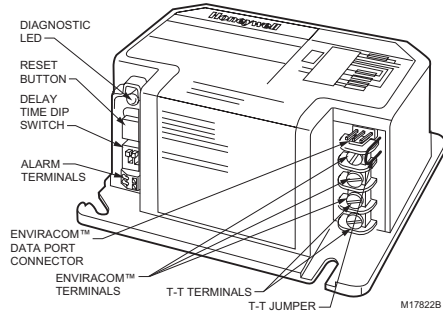

Fig. 2. R7184 terminals, connectors, LED, reset button and DIP switch locations.
Burner motor-off Delay: 0, 2, 4 or 6 minutes. Field selectable using dual inline programmable (DIP) switch positions 1 and 2. Select models have 0.5, 2, 4, or 8 minute delays. (See Fig. 2 and 12.)
^a Select models are provided with a T-T jumper which can be disabled by cutting with a pair of side-cutting pliers. (See Fig. 2.)
2. Before mounting the control, make line voltage connections as shown in Fig. 2 through 11. Splice lines with solderless connectors. Do not exceed load ratings shown on the device label.
3. After mounting make low voltage connections to the screw terminals (see Fig. 2 through 11).
The R7184 is a microprocessor-based control. The indicator light provides diagnostic information for lockout, recycling and patented cad cell status. There is a manual reset button to exit the lockout mode and enter the idle mode. (See Fig. 2.) Operation is shown in Table 4.